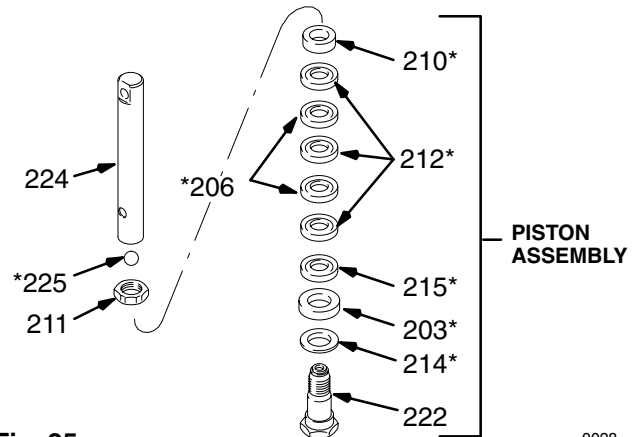
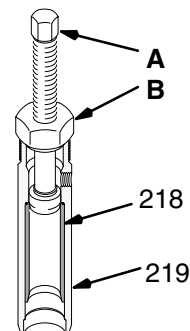

Fig. 25
Fig. 26
7. Clamp the flats of the piston rod in a vise. Loosen the retaining nut (211). Unscrew the piston valve (222) from the rod. Remove all parts from the piston valve (222). See Fig. 25.
8. Remove and clean the sleeve (218). Use ONLY the special sleeve removal tool, P/N 820–576.
9. Screw the large nut (B) of the tool into the top of the cylinder (219). Screw down the rod (A) to push the sleeve out. Remove the tool. See Fig. 26.
1. Check the outside of the piston rod (224) and the inside of the sleeve (218) for scoring or scratches. If these parts are damaged, new packings will not seal properly. Replace these parts if needed.
2. Stack the backup washer (214), seal (203*), female gland (215*), alternate packings (212*,206*), and then male gland (210*) onto the piston valve (222). See Fig. 25.
3. Tighten the packing retaining nut (211) against the piston valve (222) to 10.5 in-lb (1.24 N.m).